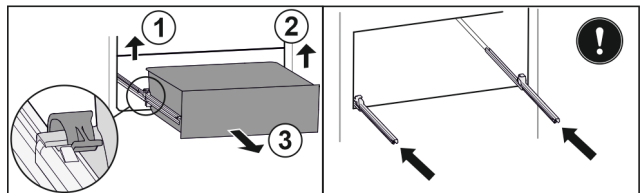

Fig. 75
- ▶ Lift left clamp and simultaneously pull drawer forwards on the left. Fig. 75 (1)
- ▶ Lift right clamp and simultaneously pull drawer forwards on the right. Fig. 75 (2)
- ▶ Remove drawer to the front. Fig. 75 (3)